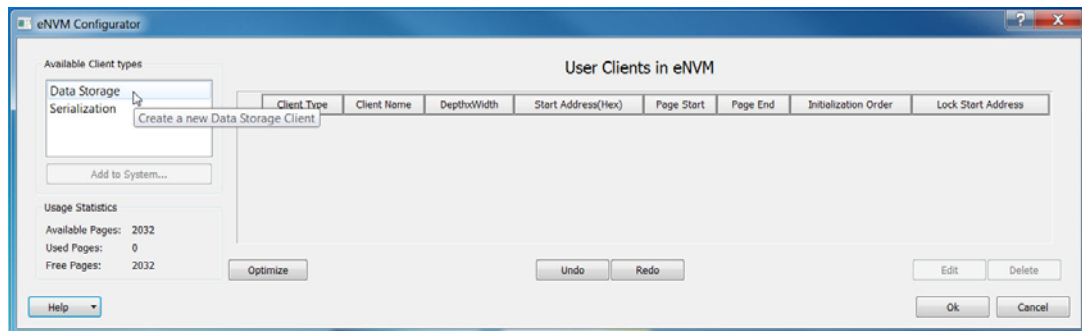

Figure 2-9 • eNVM Configurator
10. Double-click the eNVM module available in the SmartDesign MSS Configurator to add an eNVM data storage client. The Data Storage Client stores the Cortex-M3 application code. The eNVM Configurator appears (Figure 2-9).